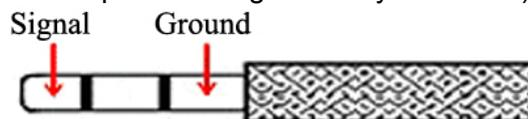

Fig.4. The polarity of jackplug of cable for external device connection.
3. If necessary with the help of a cable connect the "Output" (7) of AMT-07 with a recording instrument (for example oscilloscope or analog-to-binary converter). Fig.4.